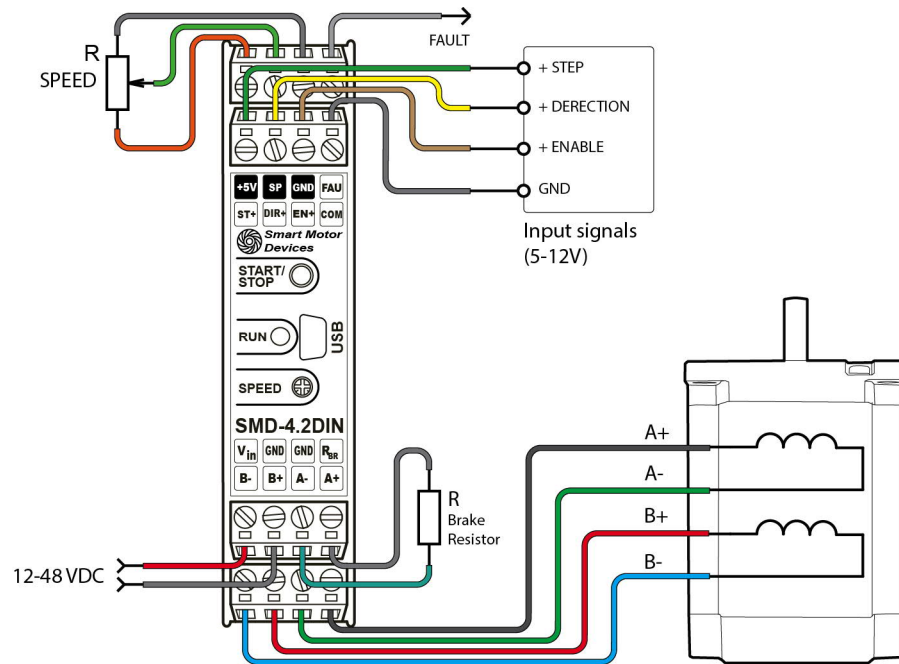
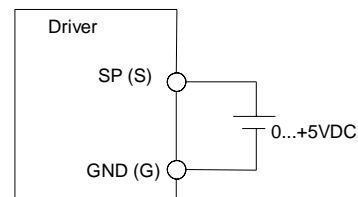

Fig. 1. Terminals of the stepmotor driver SMD-4.2DIN ver.2
Fig.7. Analog speed control or analog position control with the use of an analog voltage signal 0...5VDC source.
- connector A for a stepper motor phases connection (fig. 1);
- connector B for a power supply and external braking resistor connection (fig.1);
- connector C for connection of control signals STEP, DIR, ENABLE (fig.1);
- connector D for connection of an external potentiometer or source of analog signal 0...+5VDC – to analog speed or position control, and for connection of the output signal FAULT (fig.1);
- internal potentiometer SPEED for analog speed or position control (fig.1);
In case of forced motor rotation at a speed 120...240 rpm (10 seconds average value at the desired interval from 0 to infinite), it is necessary to connect an external brake regenerative resistor $R=5\text{ Ohm}$ $P=100\text{W}$. The load resistor should be connected to the screw terminals «GND» and «RES BRAKE» (fig.1).
- **If used analog speed control (Adjust Speed)** – control the motor velocity using the internal potentiometer SPEED, an external potentiometer (connected to inputs “+5”, “SP” and “GND” - see figure 1) or source of analog signal 0 – 5VDC (connect according the scheme on the figure 7). The motor motion can be started and stopped by pressing the START/STOP button, or by signal at the ENABLE input. When use an external potentiometer, the internal potentiometer SPEED should be turned to the position “0”.
- **If used analog position control (Adjust Angle)** – control the motor rotation angle using the internal potentiometer SPEED, an external potentiometer (connected to inputs “+5”, “SP” and “GND” - see figure 1) or source of analog signal 0 – 5VDC (connect according the scheme on the figure 7). The motor motion can be started and stopped by pressing the START/STOP button, or by signal at the ENABLE input. When use an external potentiometer, the internal potentiometer SPEED should be turned to the position “0”. In this operation mode microstepping below 1/16 is not applicable. Microstepping mode 1/16...1/128 should be used. In case of microstepping ratio 1/16 for a stepper motor with step angle 1.8° - the maximum rotation angle is 270°; in case of microstepping ratio 1/32 – 135°; 1/64 – 67,5°; 1/128 – 33,7°. The maximum momentary target speed is 600 steps/sec.